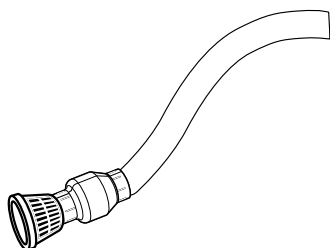

Figure 2
3. Install check valve (not included) at the intake of the suction line to help maintain pump prime (Figure 2).
4. Install suction strainer (not included) at the intake of the suction line to prevent introduction of abrasive material or debris (Figure 2). Position strainer so it does not become clogged with stones or debris.